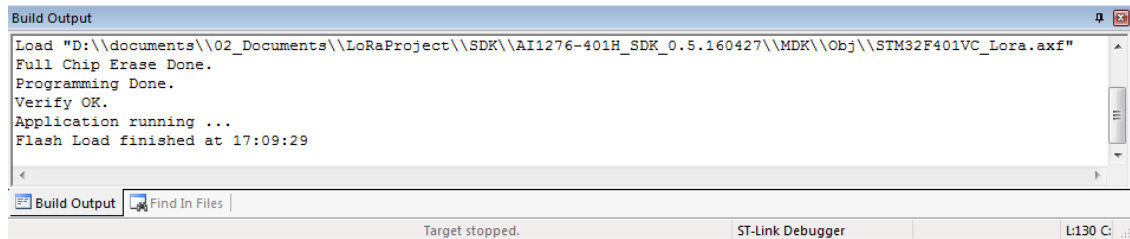

Figure 4.8
- 1)  Build the application, which compiles and links the related source files. The **Build Output** window shows information about the download progress as Figure 4.8.